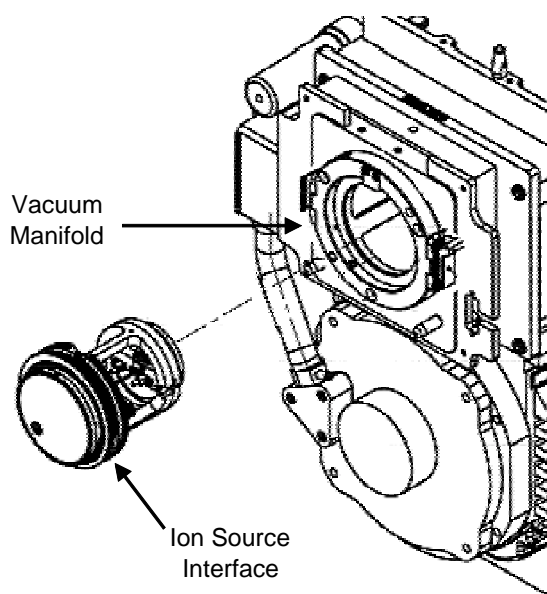

Figure 4-3. Ion source interface removal
1. Orient the ion source interface as shown in Figure 4-3.